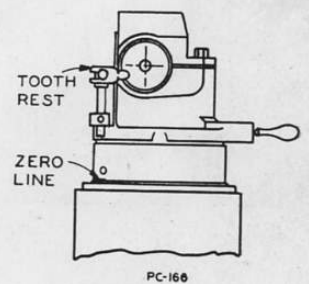

Fig. 11
1. Fasten the wheel, shape No. 23, to the right hand end of the wheel spindle. Swivel the wheel head 89 degrees. (Fig. 11)
2. Set the column to zero. (Fig. 11)
3. Mount the plain tooth rest holder with the rounded or off-set blade on the wheel head, locating the blade in front of the rim of the wheel. Allow the tooth rest stem to hang loose. Move the saddle away from the wheel to allow about  $1\frac{1}{2}$ " clearance between the face of the wheel and the cutter. (Fig. 11)